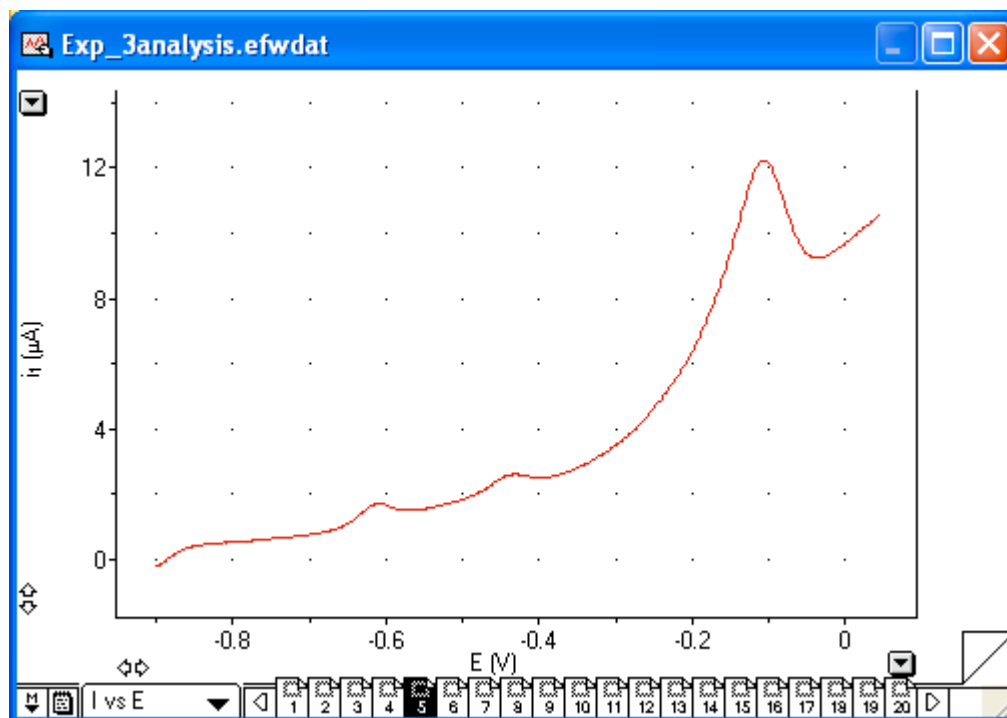

Figure 5.2 Typical Voltammogram Obtained
- 5.5.5** The voltammograms should look similar to **Figure 5.2**. The largest hump should be around -100 mV, which corresponds to copper. There may also be smaller humps at around -400 mV and -600 mV, which corresponds to lead and cadmium respectively.